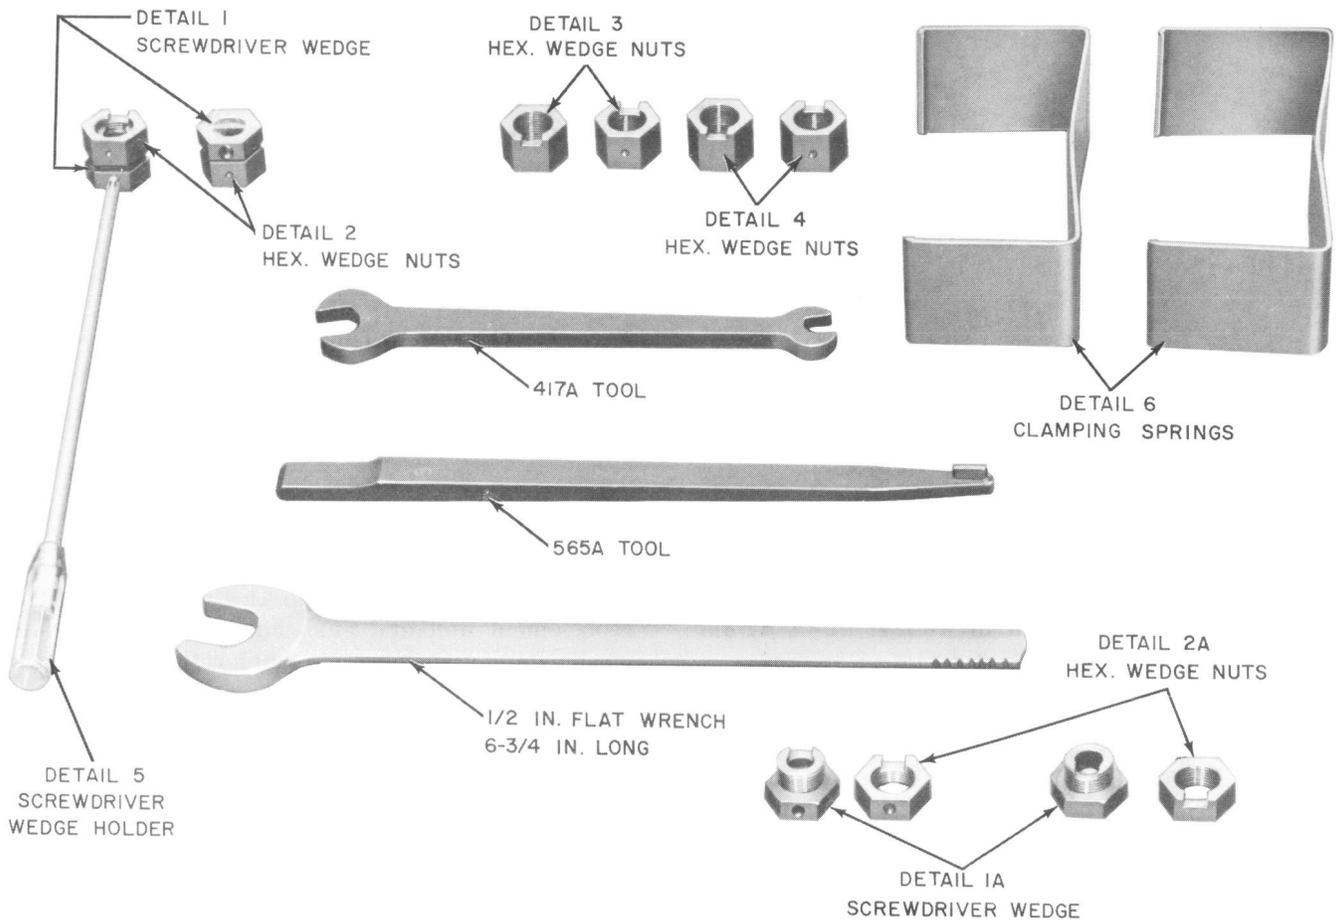

Fig. 19—KS-20558 L1 Tool Kit (KS-20557 L1 Carrying Case Not Shown)
3.52 Figure 19 illustrates the tools comprising the KS-20558 L1 tool kit which is used when replacing defective halves of 287- or 288-type relays.
Note: On details 2, 3, or 4 there is a marker on the side opposite the slot. These markers should be aligned with the tapped hole in the screwdriver wedge (Detail 1) into which the screwdriver wedge holder (Detail 5) fits. See Fig. 19.
3.61 Insert the screwdriver wedge holder (Detail 5) into the tapped hole of the screwdriver wedge (Detail 1) as shown in Fig. 19.